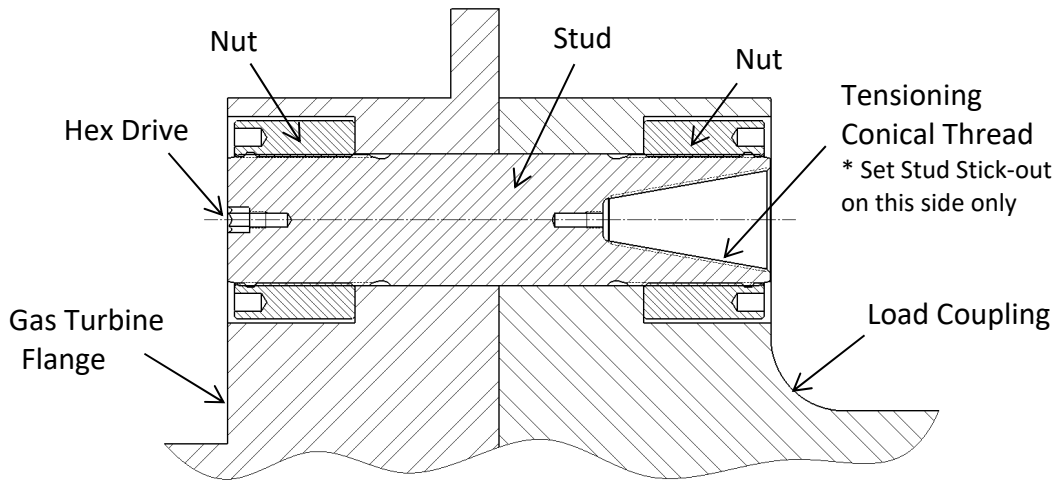

Figure 6A – Cross-section View of Gas Turbine to Load Coupling Bolted Flange Connection
2. Slide the stud and cylindrical nut assembly into the flange as shown in Figure 6A and 6B.